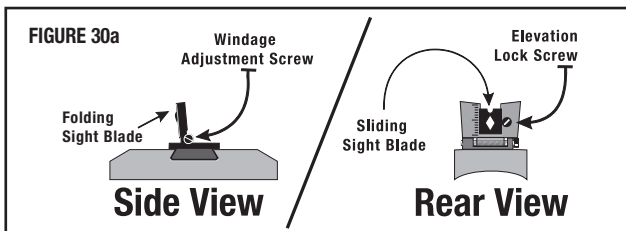

FIGURE 30a
- On those barrels equipped with adjustable sights: The standard rifle rear sight is adjustable for elevation by sliding the elevation blade up to raise the point of impact and down to lower the shot's point of impact (FIGURE 30a). It is necessary to loosen the elevation lock screw (by turning it counterclockwise, as viewed from the rear) before sliding the sight blade to the desired setting.